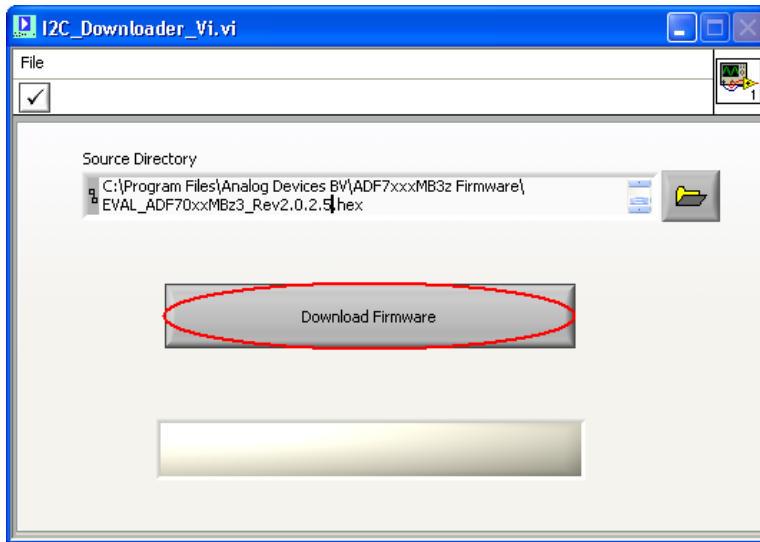

Figure 24
4. Click “**Download Firmware**” and follow the onscreen instructions (Figure 24).